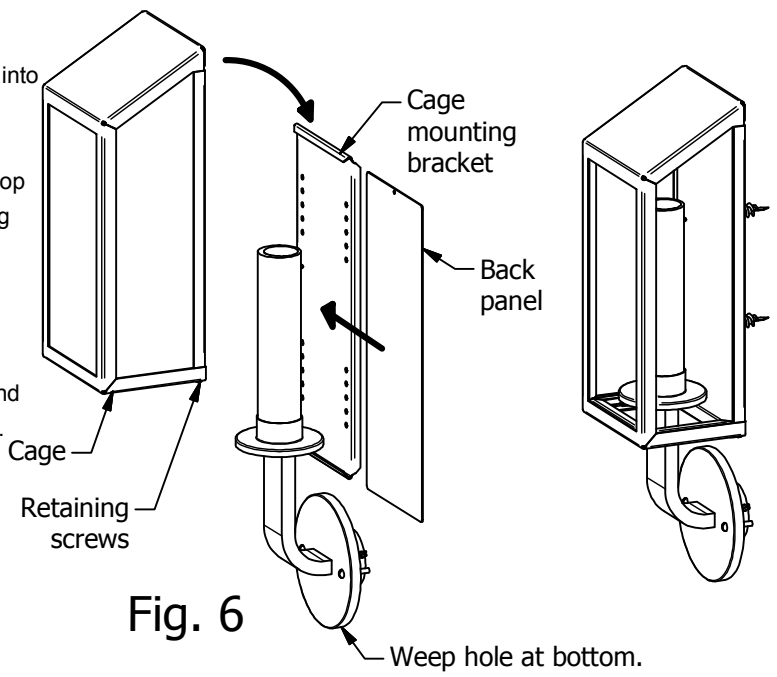

Fig. 6
- (Fig.6) Install back panel by sliding it sideways into cage mounting bracket.